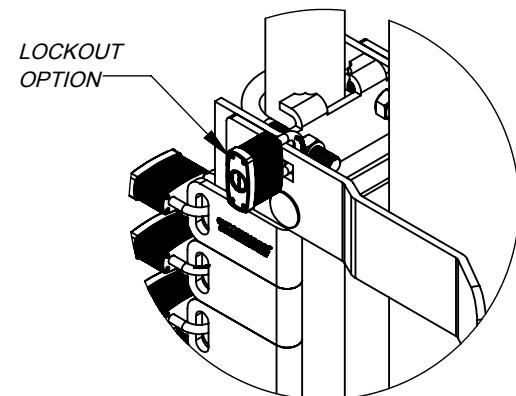

Figure 5
5. As a lockout option, the latch may be locked with a single padlock by placing the padlock through the top hole of the latch arm (Figure 5). This will prevent the latch from opening even if a lock tab is removed.